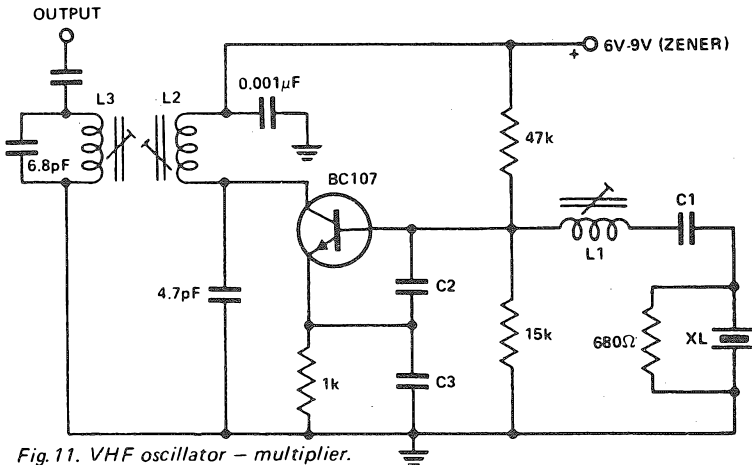

Fig. 11. VHF oscillator - multiplier.
The circuit in Fig.11 is a modification of the 'Impedance Inverting' overtone oscillator discussed by Rankin (4), who also describes a similar circuit. Normally, with the impedance inverting circuit, the collector is either untuned or grounded for RF. The collector can be tuned to twice or three times the crystal frequency. To reduce the output at the crystal frequency, a double tuned circuit is recommended. DO NOT tune the collector to the crystal frequency, otherwise the circuit will oscillate at a frequency not controlled by the crystal. It is advisable to keep the collector lead as short and direct as possible.